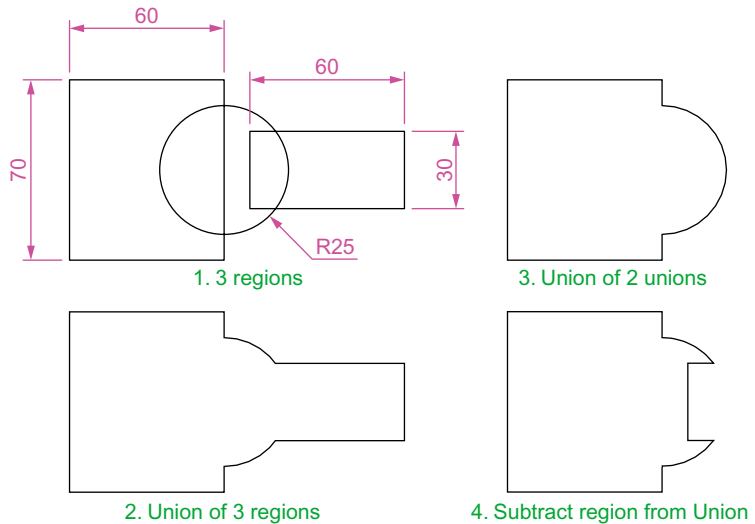

Fig. 12.10 Example – Line and circle outlines and Region
### Example – Outlines & Region (Fig. 12.10)
1. Construct the left-hand drawing of Fig. 12.10 using the **Line** and **Circle** tools.
The first two examples of forming regions given in Figs 12.10 and 12.11 are used to show the results of using the **Extrude** tool.
1. Open Fig. 12.10. Erase all but the region **2**.
1. Open Fig. 12.10 and erase all but the region **3**.